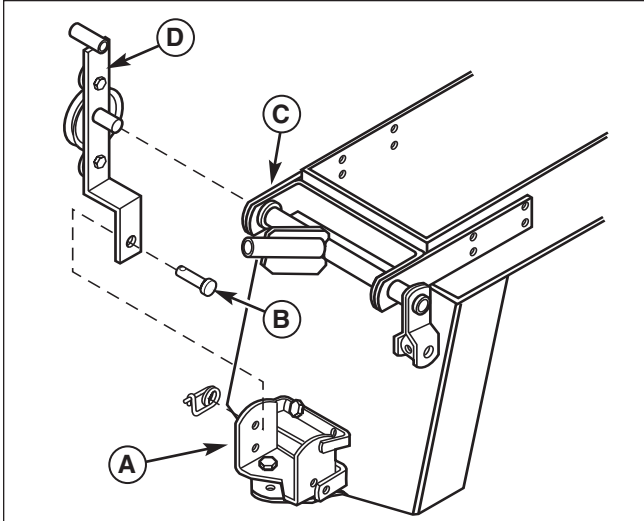

Figure 7. Rear Pulley Installation
1. Install the rear pulley assembly (D, Figure 7) into the left side of the rear hitch (C). Secure the bottom of the pulley assembly to the lower drawbar hitch (A) with pin (B).